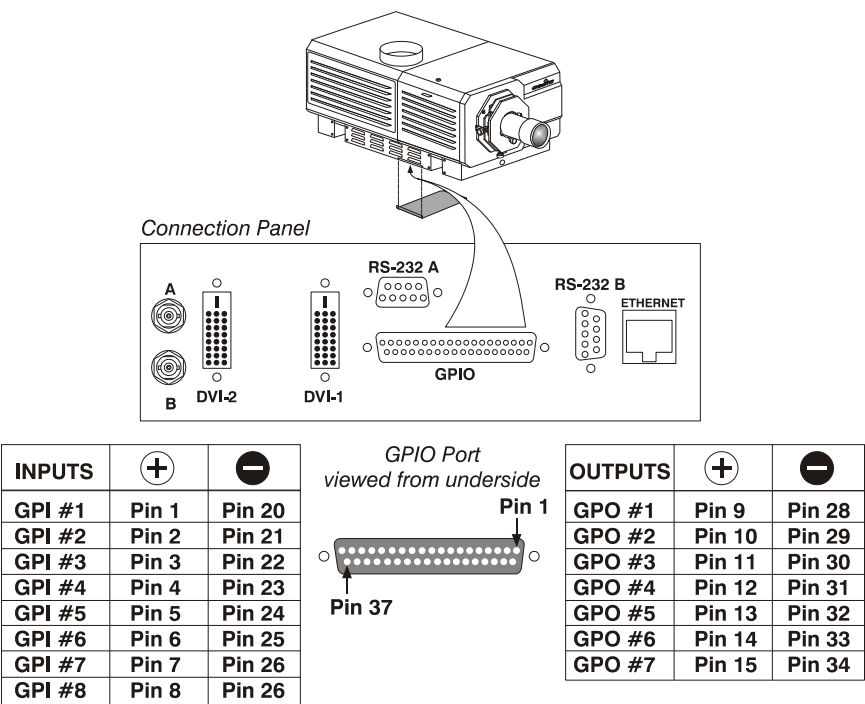
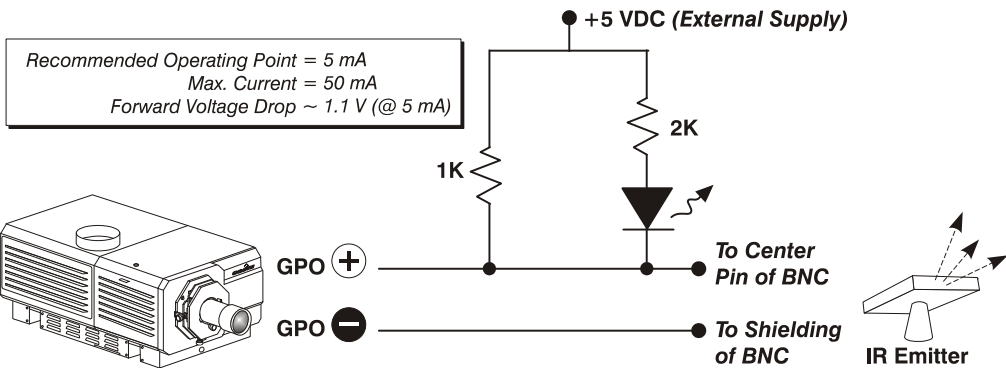

Figure C.1. GPIO Connector Pinouts
Figure C.2. Circuit for Power Supply
The GPIO Port ➤ The 37-pin GPIO connector located on the underside of the projection head provides a flexible method of interfacing a wide range of external I/O devices to the projector, often so that an event on one device automatically triggers an event on the other. The pins on this connector that are configurable using the TPC's *Custom 3D Control* menu are identified in Figure C.1.
NOTE: *Pins not shown in Figure C.1 are reserved for other uses, and cannot be specified at the TPC.*
If you are wiring your own GPIO cable for use with a server or 3D device such as an IR emitter or a polarizer, follow the circuit diagram in Figure C.2.
1. Assemble a cable according to guidelines shown in Figure C.1 and Figure C.2.
3. In the TPC’s *Custom 3D Control* menu, set *Output GPO* according to the pins wired in the GPIO cable (see Figure C.1). For instance, if you have wired pins #10 (+) and #29 (–) to your 3D device, set *Output GPO* to GPO #2.